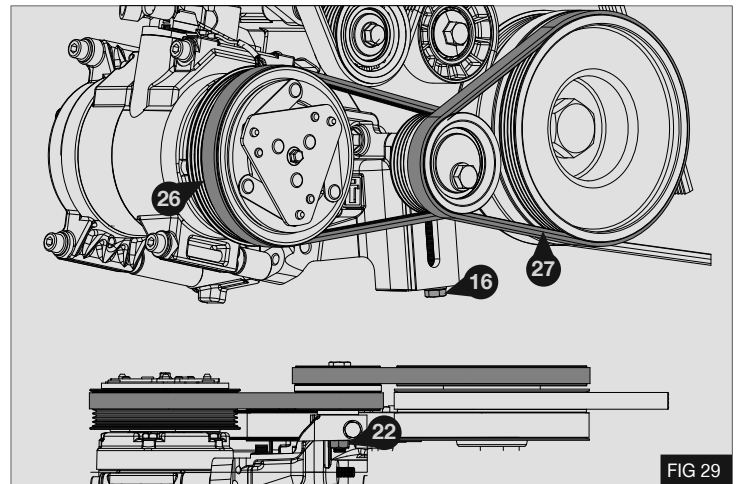

FIG 29
3. Fit drive belt (26) between compressor and tensioner pulley- Fig 29
4. Fit drive belt (27) between tensioner pulley and crank pulley
5. Using draw bolt (16) apply tension to belts, once correct tensions have been achieved (see table) lock pulley by tightening M10 nut (22) - Fig 29